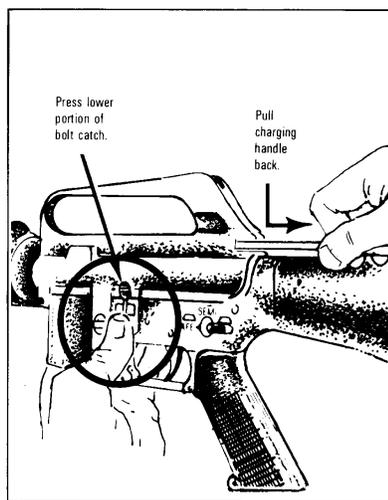

Figure 10-2. Locking the Bolt Open
- d. Lock the bolt open (figure 10-2).